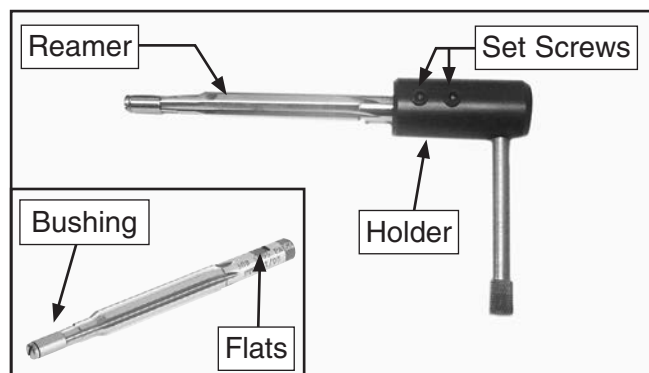

Figure 2. Floating reamer holder and reamer assembled.
2. Assemble the reamer (not included) and holder by inserting the reamer shank into the holder and tightening the set screws against the reamer flats with a 3mm hex wrench (see **Figure 2**).